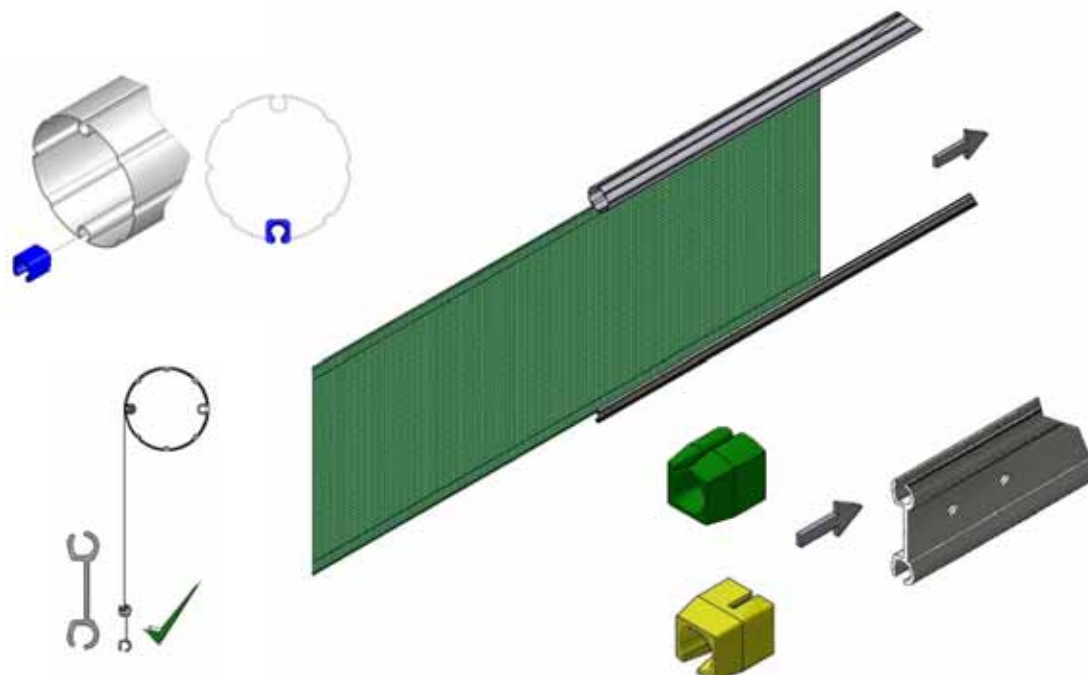

Figure 6a, Panel Assembly
5. Slide the fabric panel into the flute on the top tube. Push the Flute Guide Insert over the end of the flute in the tension bar to protect the fabric sheet. and then slide the tension bar onto the fabric panel. Note the correct orientation of the tension bar relative to the door arrangement (Figure 6a)